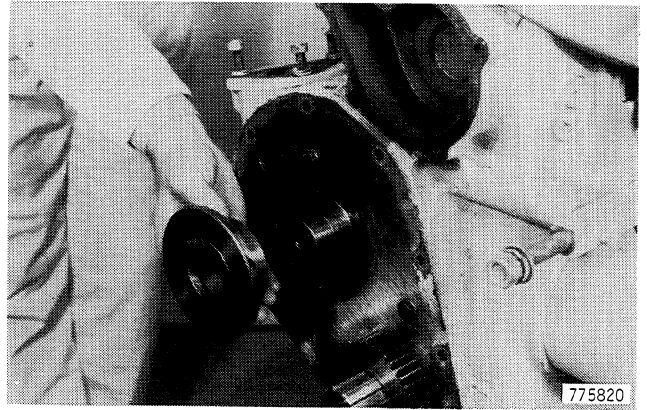

Figure 74
- 9. Remove the locating plate for the camshaft, Figure 74.